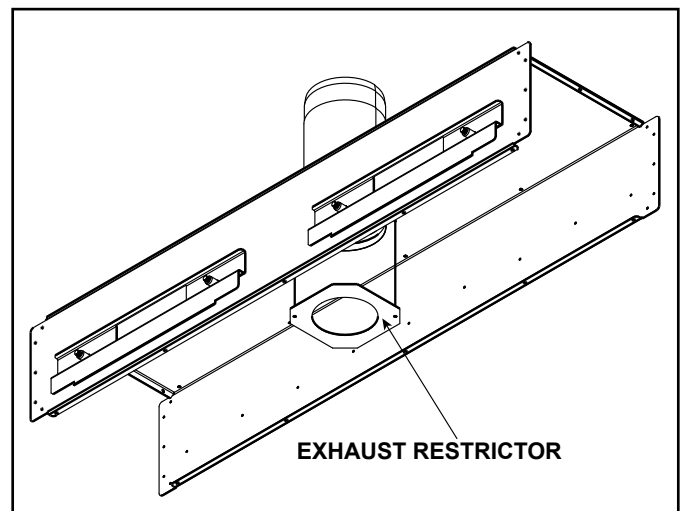

Figure 7.8 Exhaust Restrictor
1. Locate the two pilot holes in the inside firebox chamber as shown in Figure 7.8.
3. Use two 1/2 in. (13 mm) self-piercing screws to secure vent restrictor to firebox heat shield. See Figure 7.8.